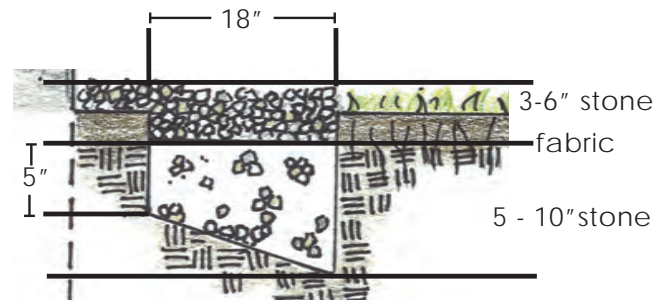

Figure 1. Profile for well drained soils.
from the house so that water will drain away from the foundation (Figure 1).
*For Well Drained Soils:* **Fill the trench with stone.** Fill the trench with  $\frac{1}{2}$ " to  $1\frac{1}{2}$ " crushed stone until it is about 3" below the ground level. Place a piece of non-woven geotextile fabric over the stone layer and fill the remaining three inches with additional stone (Figure 1).